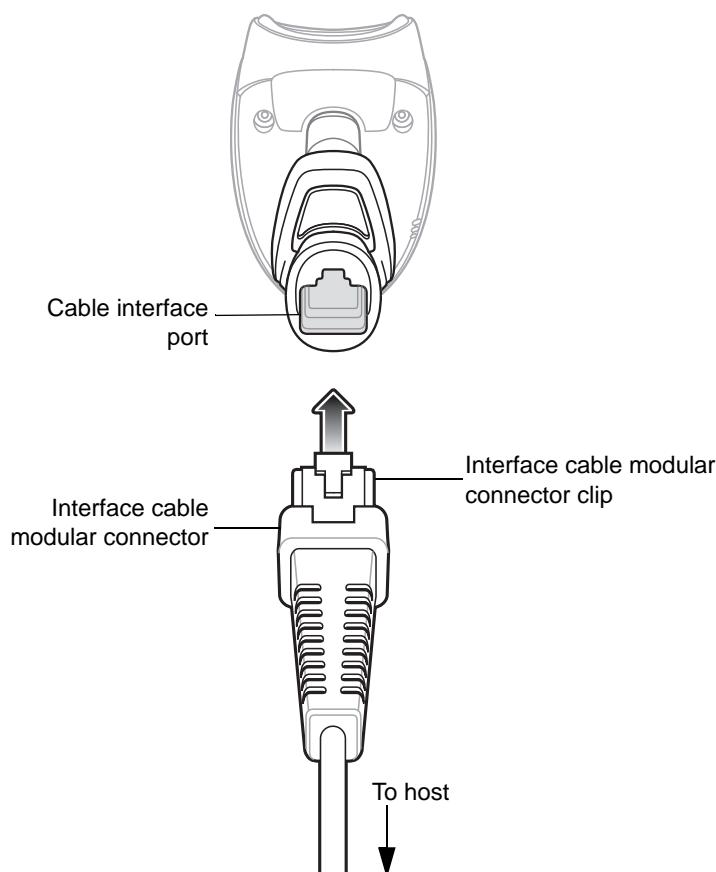

Figure 1-2 *Installing the Cable*
1. Insert the interface cable's modular connector clip into the cable interface port on the bottom of the scanner handle. (See *Figure 1-2*.)